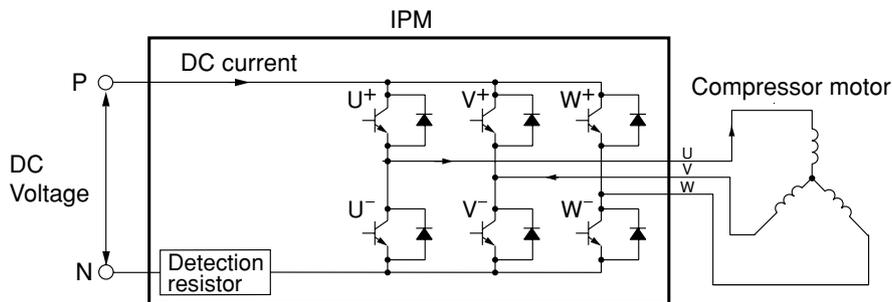

Fig. 6-6
1. Turns on the power module's U⁺ and V⁻ transistors so the current flows to the motor windings as shown in Fig. 6-6.